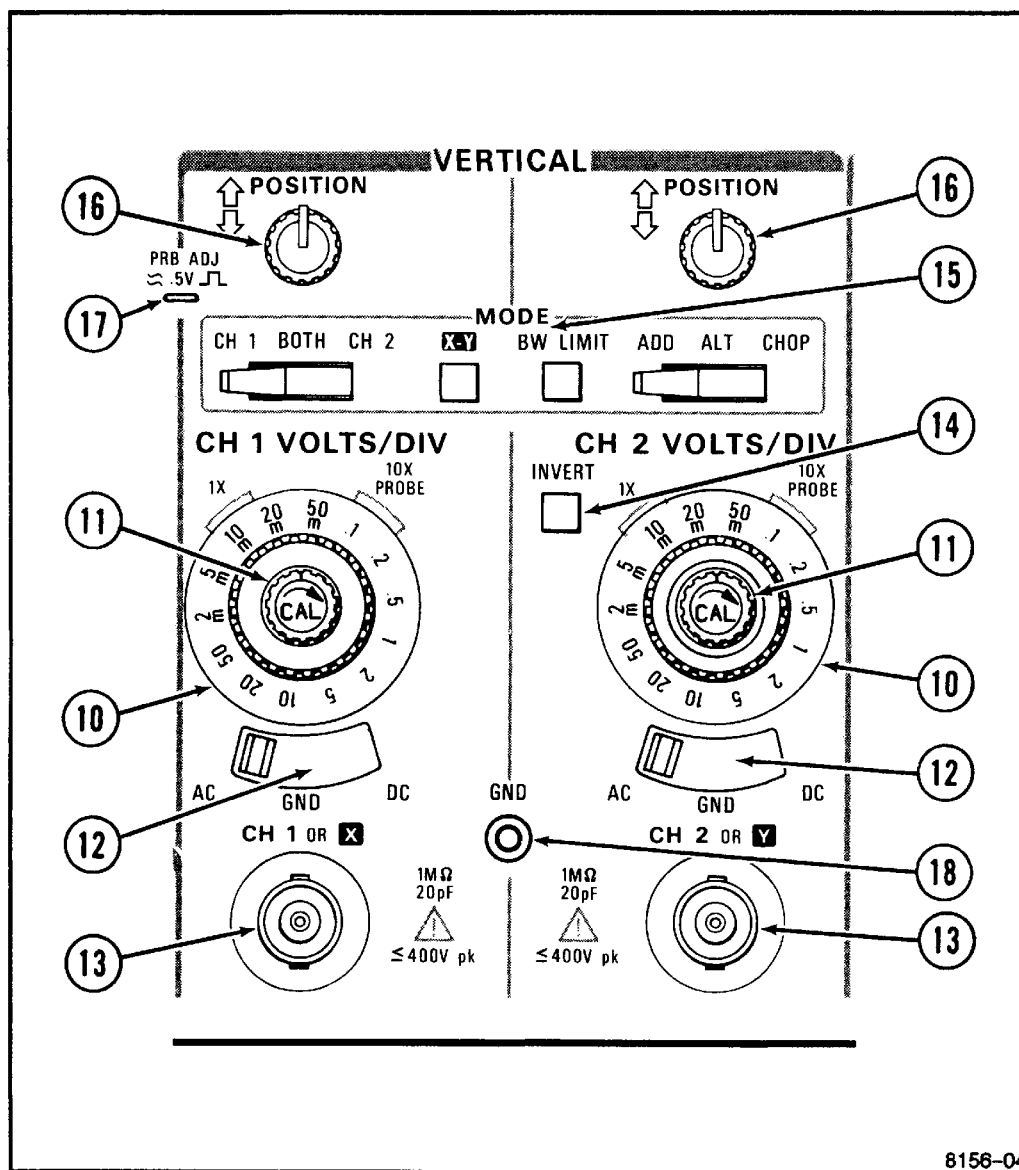

Figure 3-2. Vertical controls and connectors.
Refer to Figure 3-2 for location of items 10 through 18.